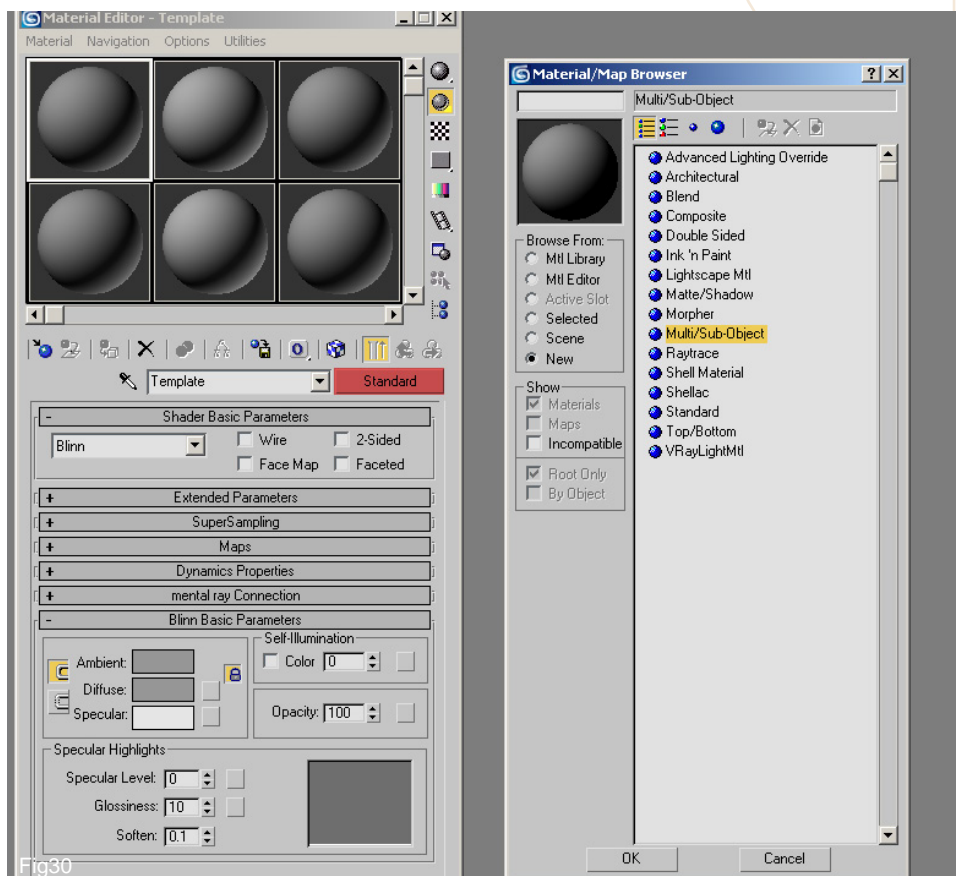

Fig30
30. This concludes the mapping section of the exercise and now we need to assign a material to our mesh in preparation for texturing by dragging the material onto each and every mesh. Open up the Material Editor and select one of the example slots. Click on the Standard tab (highlighted in red in Fig 30) and select Multi/Sub-Object from the browser. You will be prompted with a Replace Material box ; just click OK as either option is fine. You will now see ten sub-materials under the Basic Parameters– click on Delete at the top of the window until you see only three remaining. Notice how the material is now a Multi/Sub-Object material that contains three Standard materials.